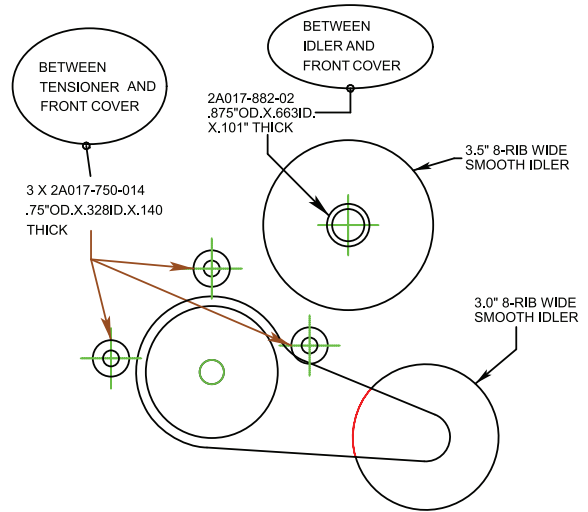

Fig. 6.1-a
3. Slide the three .75"OD x .328"ID x .140" spacers onto the three bolts protruding through the tensioner. (See Fig. 6.1-a.)
4. Secure the tensioner assembly to the front of the engine. Use Fig. 6.1-a as guide for spacer placement.